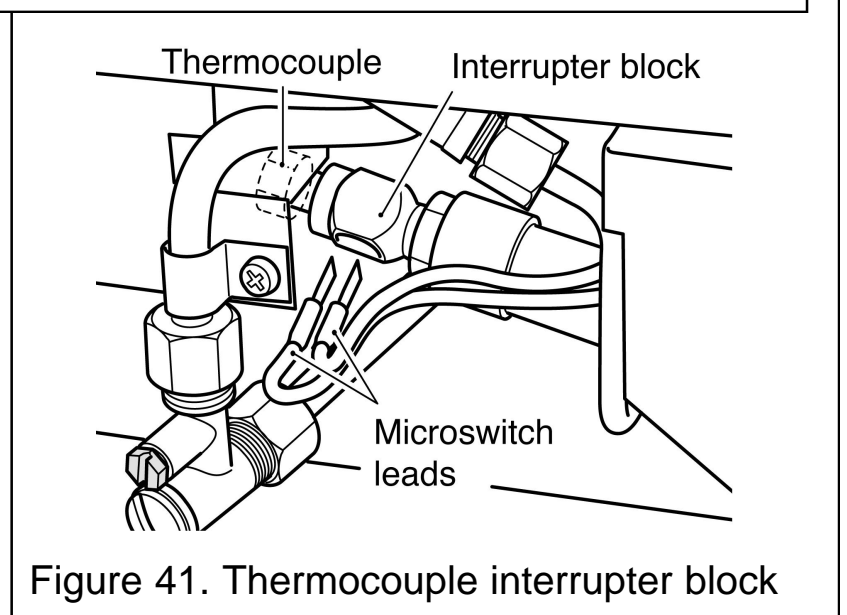

Figure 41. Thermocouple interrupter block
3. Loosen the thermocouple nut to free the microswitch leads and pull the leads clear of the thermocouple interrupter block. See figure 41.